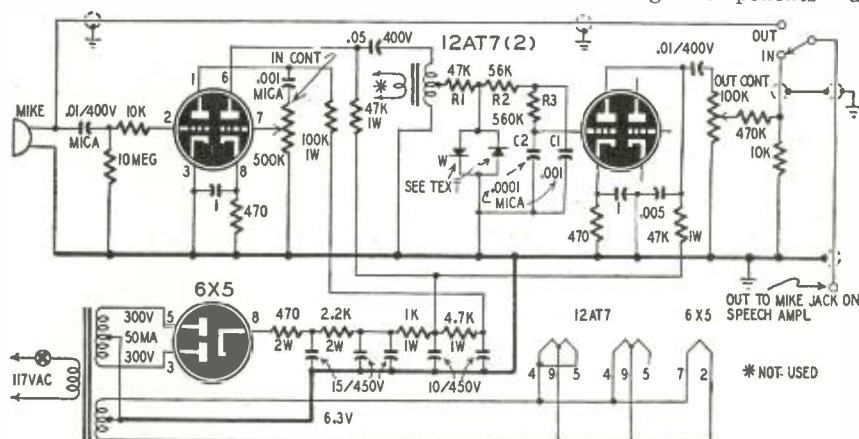
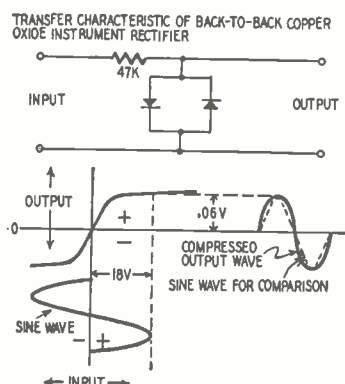

Fig. 1—Circuit of the compressor. Two meter rectifiers do the compressing.
Fig. 2—Action of the meter rectifiers.
*Ham News*. Because it generates less distortion and fewer harmonics, filtering is simplified. The circuit shown in Fig. 1 permits higher input levels to the speech circuits without overmodulating the transmitter. The compression takes place in a pair of copper-oxide meter rectifiers connected back-to-back in a circuit which looks like the conventional diode clipper. Figs. 2 and 3 show the transfer characteristics of copper-oxide instrument rectifiers and diode clippers, respectively.